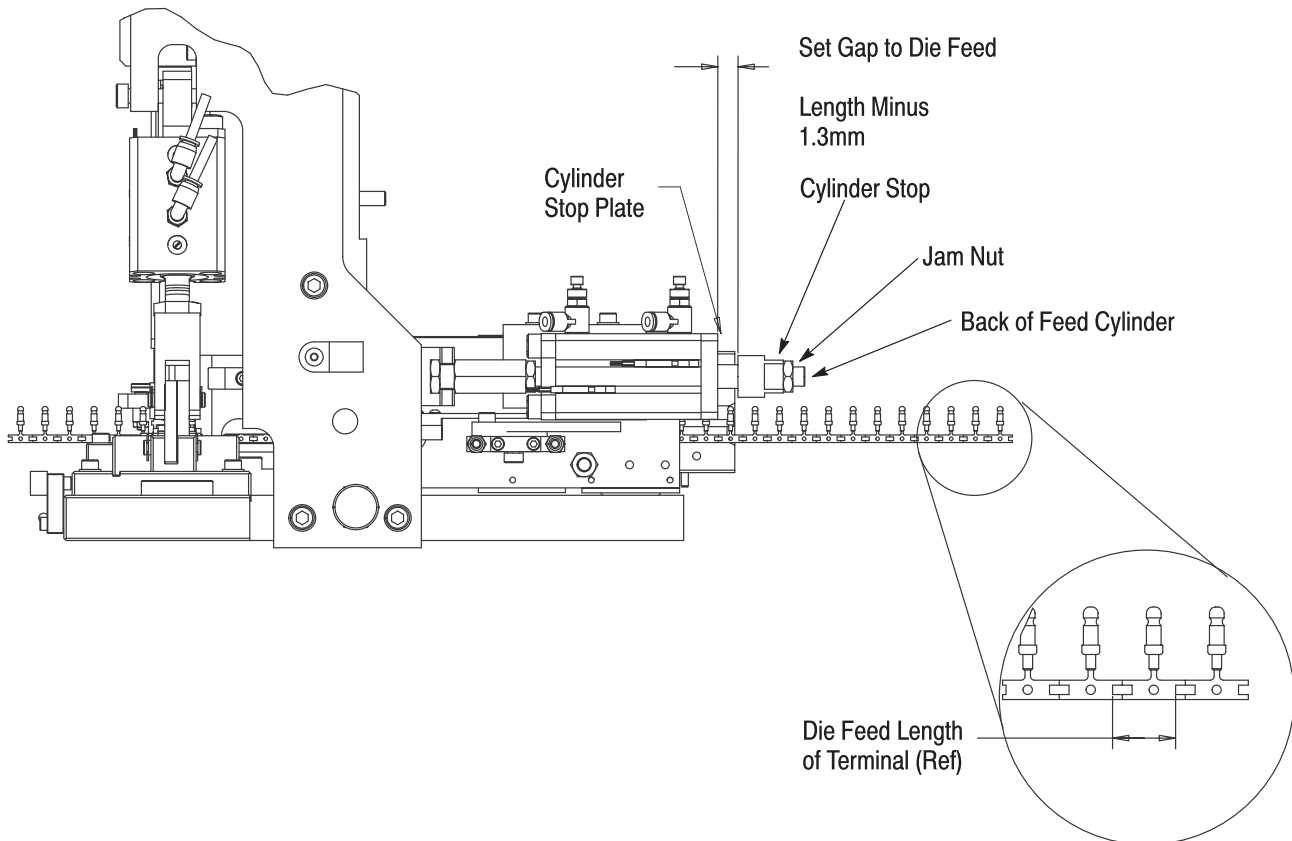

Figure 12
5.1. Feed Finger Stroke Adjustment (See Figure 12)
The stroke of the feed cylinder should be adjusted to 1 mm [.040 In.] more than the die feed length of the terminal. The terminal die feed dimension can be obtained from the terminal drawing, application specification, or from the direct measurement of the terminal strip. The proper stroke can be obtained by setting the gap (see Figure 12) to 1.3mm **LESS** than the die feed.